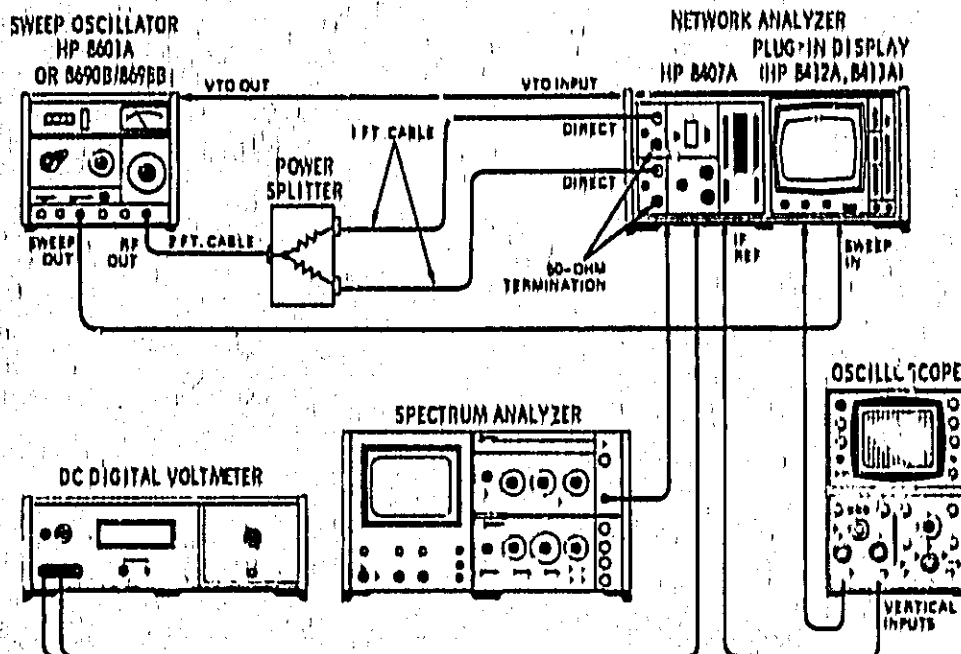

Figure 7-2C, Repair Procedure Test Setup
b. Connect the equipment as shown in Figure 7-2C.